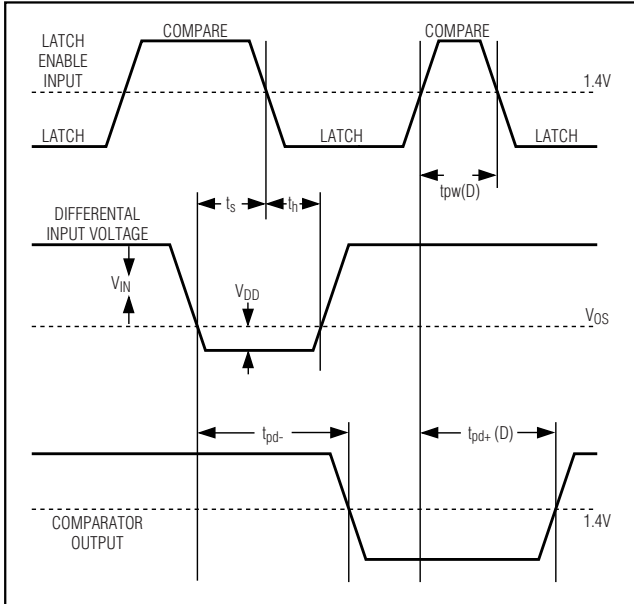

Figure 2. MAX900/MAX902/MAX903 Timing Diagram
**Note 4:** Guaranteed by design. Times are for 100mV step inputs (see Propagation Delay Characteristics in Figures 2 and 3).
**Note 6:** See Timing Diagram (Figure 2). Owing to the difficult and critical nature of switching measurements involving the latch, these parameters cannot be tested in a production environment. Typical specifications listed are taken from measurements using a high-speed test-jig.